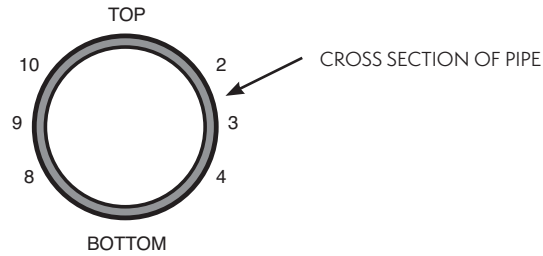

Figure 13 – Pipe Taps Shall be Between 2-4, or 8-10. Not on Top or Bottom of a Pipe.
- 2.2 Before uncrating, assembly, and installation of the Smart Shield® system, consider the location of the recirculating water's (2) supply and (2) return taps in the system piping headers. Each header tap should include an isolation valve at the header and be installed on the side of the pipe (see Figure 13). Consider sanitary drain location. Drain piping should provide for gravity flow. Also consider install location for both the **CRF** and **BCF-OX** systems, as motorized valves on the **BCF-OX** are field wired into the controller located on the **CRF** system. The **CRF** system may be located against a wall or in a corner of the mechanical room. Allow sufficient space for supply, return, and drain piping (minimum of 24" [610 mm]). Allow a minimum of 30" (760 mm) unobstructed space in front and to the side of the **CRF** system for routine servicing. Allow a minimum of 36" (915 mm) unobstructed space above feeders for routine servicing. See Figures 1 and 2.
- 3.1.3 Each header tap shall include an isolation valve at the header, supplied by others. See Figure 13 for recommended pipe tap locations.
The **BCF-OX** module is installed in conjunction with the **CRF** system in a mechanical room, as described in Section 3.0. Before installation, consider the location of the recirculating water's supply and return taps in the system piping headers. Each header tap should include an isolation valve at the header and be installed on the side of the pipe (see Figure 13). Also consider sanitary drain location. Drain piping should provide for gravity flow. The **BCF-OX** module may be located against a wall or in a corner on the floor of the mechanical room. Allow sufficient space for supply, return, and drain piping. Allow a minimum of 30" (760 mm) unobstructed space in front and to one side of the skid for routine servicing. Allow a minimum of 36" (915 mm) unobstructed space above feeders for routine servicing. See Figures 23 and 24. General installation piping arrangements are shown in Section 3.2. For special installations not covered in this manual, please consult your EVAPCO Representative or Authorized Water Systems Service Provider. General **BCF-OX** installation requirements are listed below.
- 8.1.3 Each header tap shall include an isolation valve at the header (supplied by others) and be installed on the side of the pipe (see Figure 13).